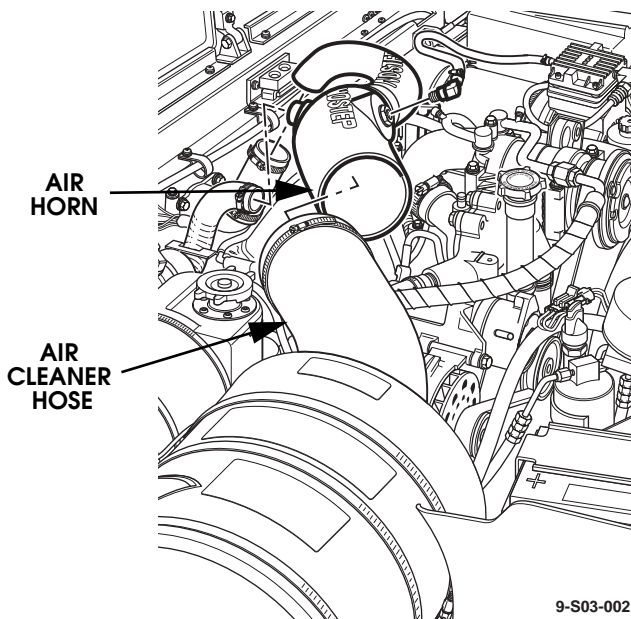

Figure 2-54: Air Horn and Hose Removal/Installation
18. Remove air horn from turbocharger and air cleaner hose (Figure 2-54).